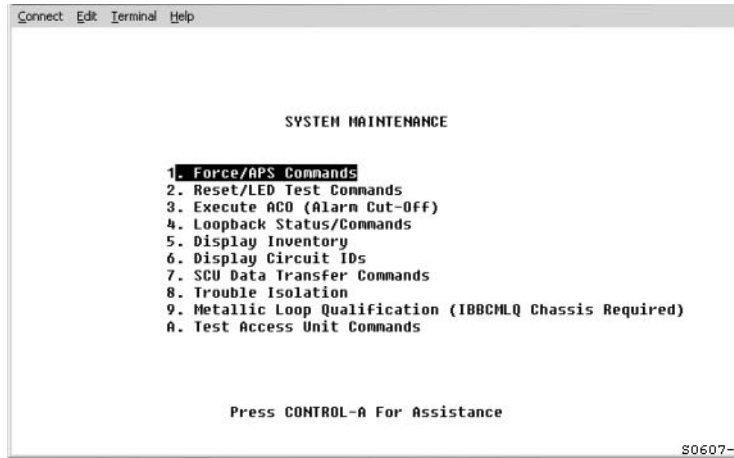

Figure 13. System Maintenance Menu
- 2 From the SCU Main Menu, use the arrow or number keys to select **System Maintenance**. Press **ENTER** if using the arrow keys. The System Maintenance menu appears (Figure 13 on page 23).